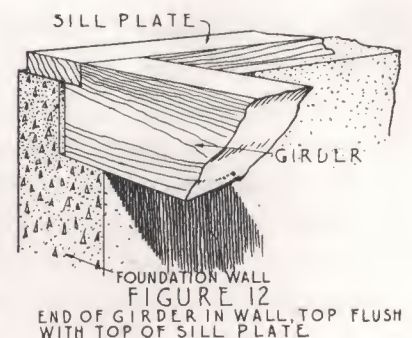

FIGURE 12
- Top of Girder Even with Top of Sill Plate** (e) If post footings and foundation wall have been built and posts located in accordance with the drawings, the top of the girder will be $1\frac{5}{8}$ inches higher than the masonry wall. This is so that the top of the girder will be even with the top of the sill plate when it is laid (see Figure 12).